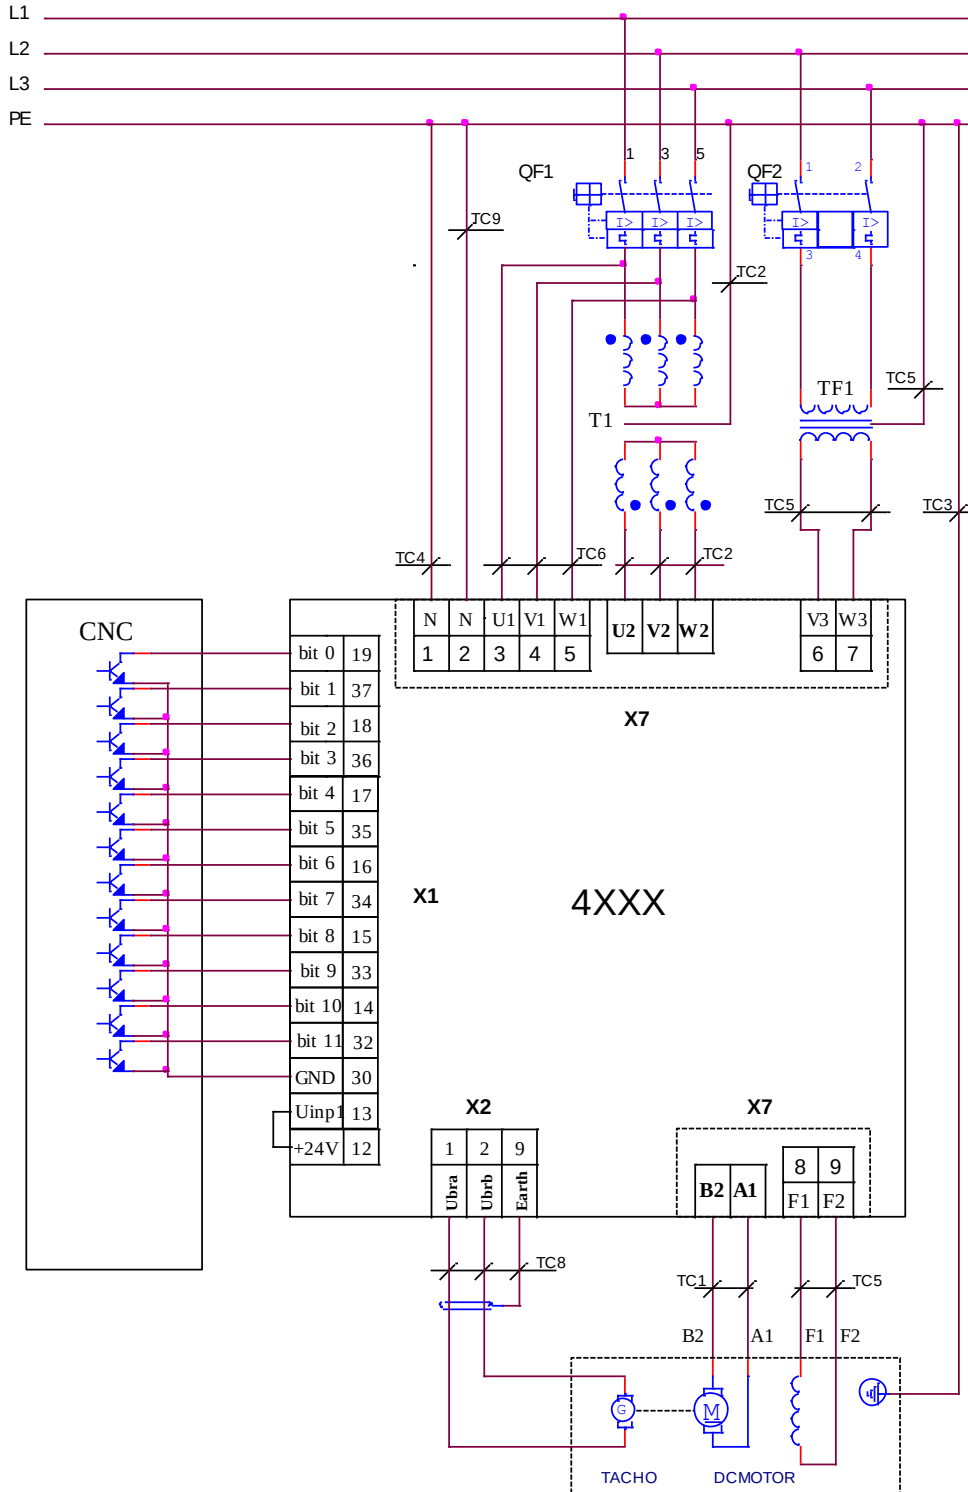

Figure 18 Circuit of the converters connecting
- Keep the value and the types of the protection elements, given in **table 16** and the minimum sections of the connecting conductors in correspondence to the circuits in **figure 16**, **figure 17** and **figure 18**;
- Electrical connections must be performed in correspondence to the circuits in **figure 16**, **figure 17** and **figure 18**;
In **figure 18** is given connecting of the converter, at which: